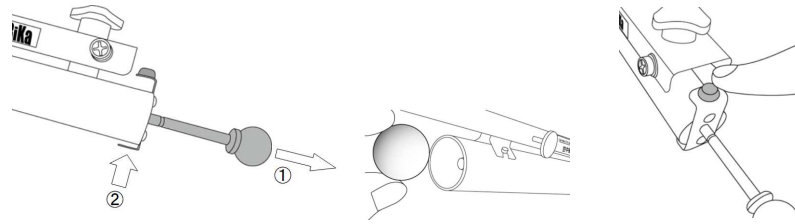

Fig. 8 How to launch (fire) a Projectile
2. Grasp the knob of SFP, slowly take SFP from the barrel (①), and then, latch SFP at one of its four equally spaced shallow cuts (grooves) (②) to determine the magnitude of launching the ball (see Fig. 8).
1. Grasp the knob of a Spring Firing Pin (SFP) , slowly take SFP from the barrel (①), and then, latch SFP at one of its four equally spaced shallow cuts (grooves) (②) to determine the magnitude of launching the ball (see Fig. 8).
4. When pressing the trigger button of the ball launcher to release the spring firing pin, synchronously, power supply to the coil of BRU will be cut off. Thus, the “Free-falling Object” will also be released simultaneously (see Fig. 8). As a result, the projectile and the object will collide with each other.